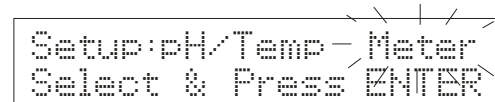

Figure 160
3. Use **>/CAL** to select "Meter". The mode selected will flash. See **Figure 160, 161 and 162**. Press **ENTER** to enter Meter setup mode. You are now in the Meter setup mode.